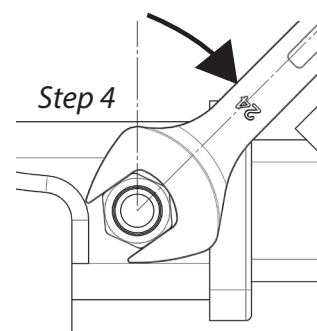

Fig 4. Tightening of Silent Anti-Rattle Hitch Pin Nut
- a. Remove four M10 nuts from each side of rear impact beam, refer figure 4.
- b. Remove muffler hanger on both side, refer figure 4.
- a. Position towbar against rear studs and secure with 6 M10x1.25 nuts supplied refer figure 4.
Tighten HITCH PIN NUT by turning nut a further 1/8th of a turn in the clockwise direction using a 24mm spanner (Fig. 4).